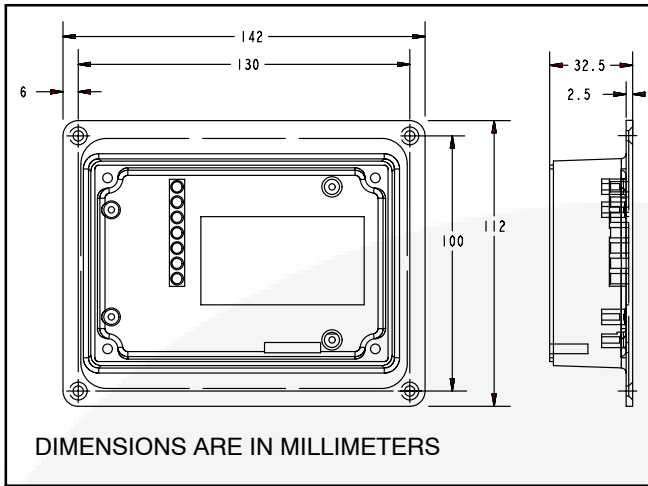

FIGURE 3-16. OPERATOR PANEL FOOTPRINT
- a. Select a suitable location and mount the panel using #6–32 hardware. Figure 3-16 shows the operator panel dimensions. The operator panel must be mounted within 72 inches (1828.8 mm) of the control board.